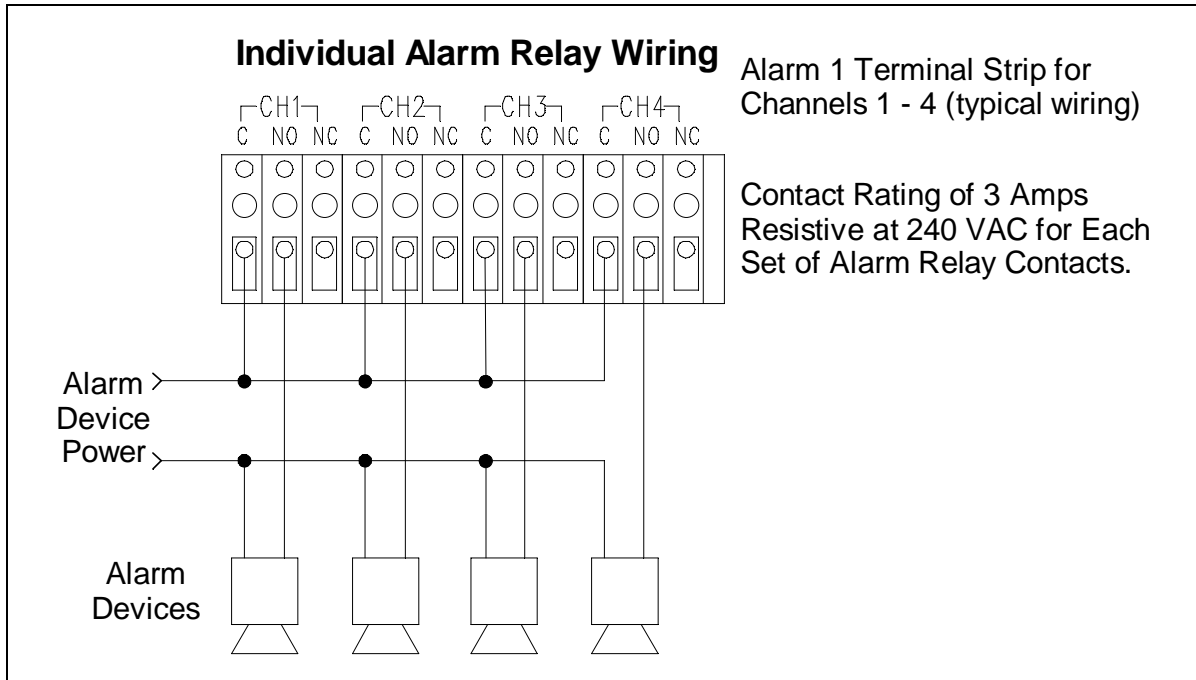

Figure 7: Alarm Relay Wiring
4. Connect the DC line to the controller terminal strip as shown in Figure 7.